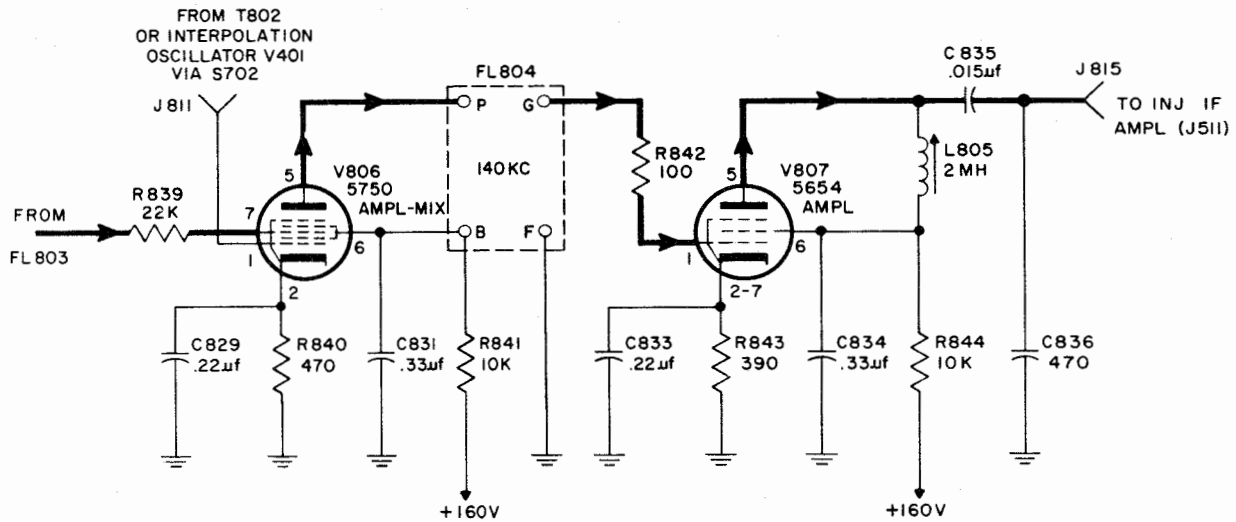

Figure 4-50. Amplifier-Mixer V806 and Amplifier V807, Simplified Schematic Diagram
e. AMPLIFIER-MIXER V806, AMPLIFIER V807. (See figure 4-50.)—Amplifier-mixer V806 produces a 140 kc signal for later use in establishing the final conversion signal of 80 kc.